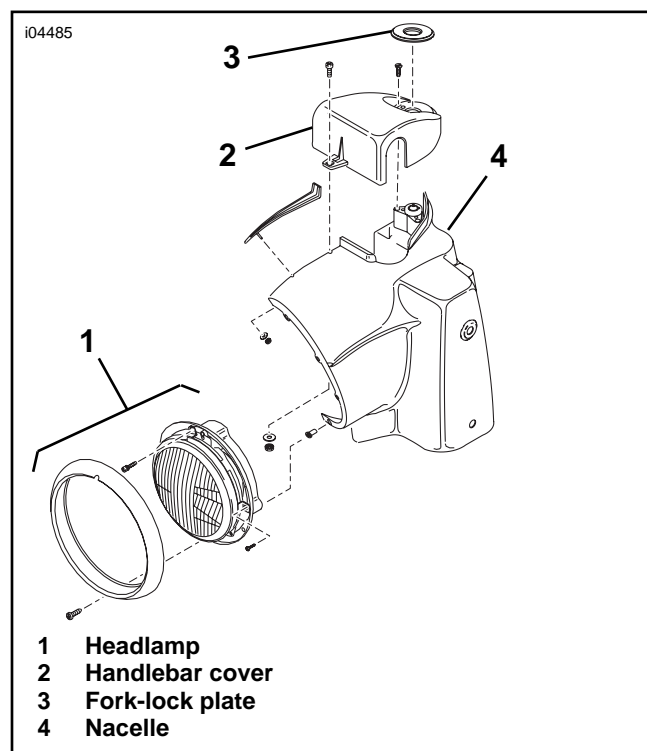

Figure 8. Nacelle, Headlamp, and Handlebar Cover (FLHR/ FLHRC Models)
- See Figure 8. Carefully pry off the fork-lock label plate (3) from the handlebar cover (2). Remove the entire plastic plate; do not remove the adhesive label from the plate.